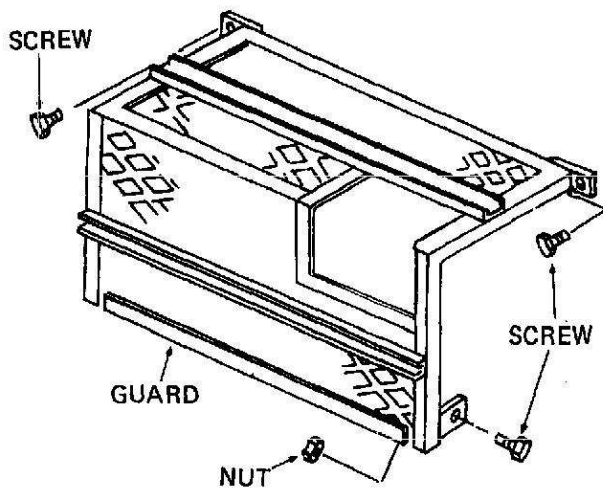
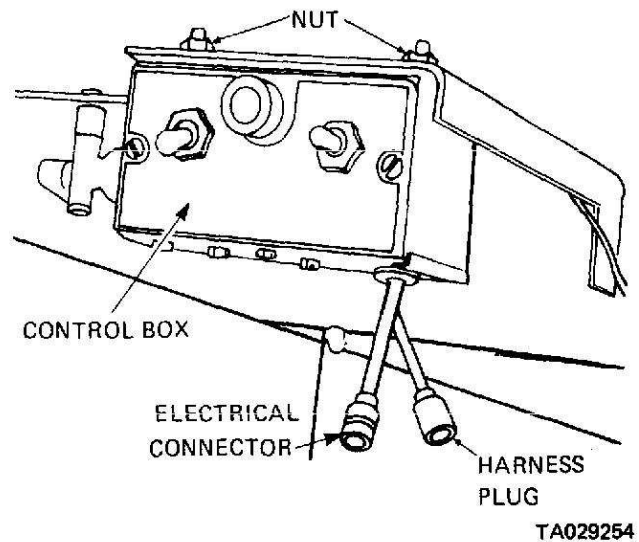

Figure 3-15. Heater Guard
Figure 3-16. Electric Control Box
- (1) Disconnect 24 volt battery system ground cable.
- (2) For the M880 or M882 vehicle, gain access to control box by removing attaching hardware from the retaining guard (fig. 3-15). Remove guard. For the M886 ambulance, access is gained in same way as for heater/ventilator in paragraph 4-47.
- (3) Disconnect electrical connector and harness plug from heater control box assembly (fig. 3-16).
- (4) Remove two nuts (fig. 3-16) and washers securing control box assembly to base plate. Remove the control box.
- (1) Secure control box assembly to base plate by installing two nuts on screws on top of control box (fig. 3-16).
- (2) Connect electrical connector of power harness and connector of heater harness to control box assembly.
- (3) Install guard (fig. 3-15) and retain with three screws and nuts.
- (4) Connect 24 volt battery ground cable.